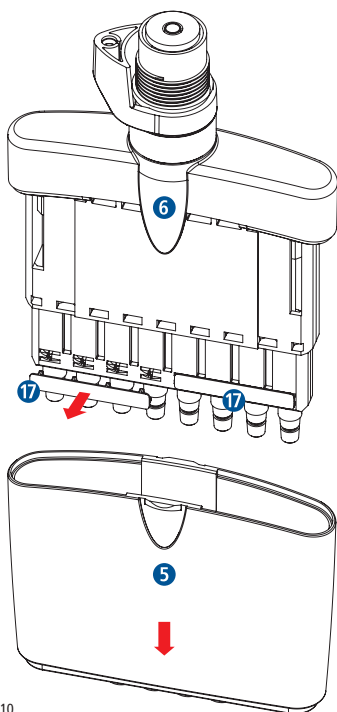

Fig. 10
- Pull both clips **17** down and rotate the lower housing through 180° (Fig. 10).